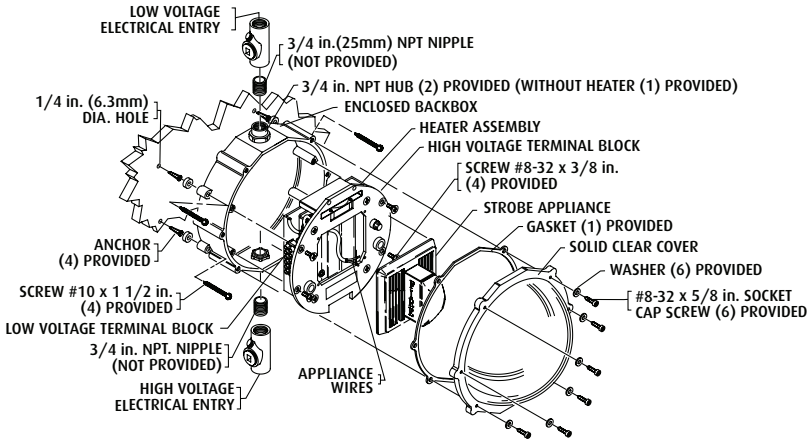

FIGURE 1
## Mount Enclosure back box - Refer to Fig. 1
2. Mount back box in desired location (wall mount only) using the four #10 x 1-1/2" screws and anchors (provided). Drill a 1/4" diameter pilot hole for plastic anchors at spacing in Fig. 1.
10. Attach heater assembly to back box using (4) #8-32 x 3/8" flat head screws into heater assembly mounting bosses on back box (see Fig. 1). Make sure all service wiring is gathered away from the heater and be careful not to pinch wire under heater assembly. Fan must be mounted toward top of enclosure.